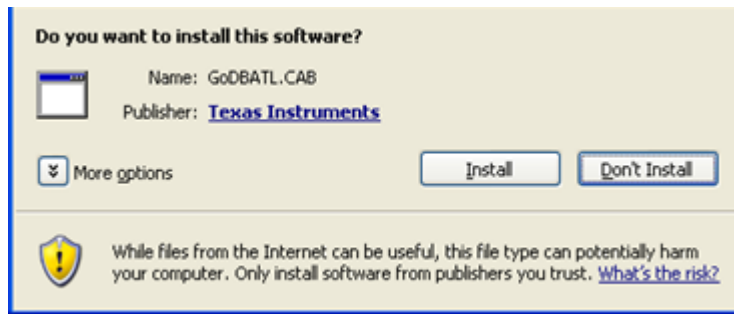

Figure 8. Security Warning Dialogue Box
2. The Security Warning dialog box may appear if ActiveX® is not installed (see Figure 8).